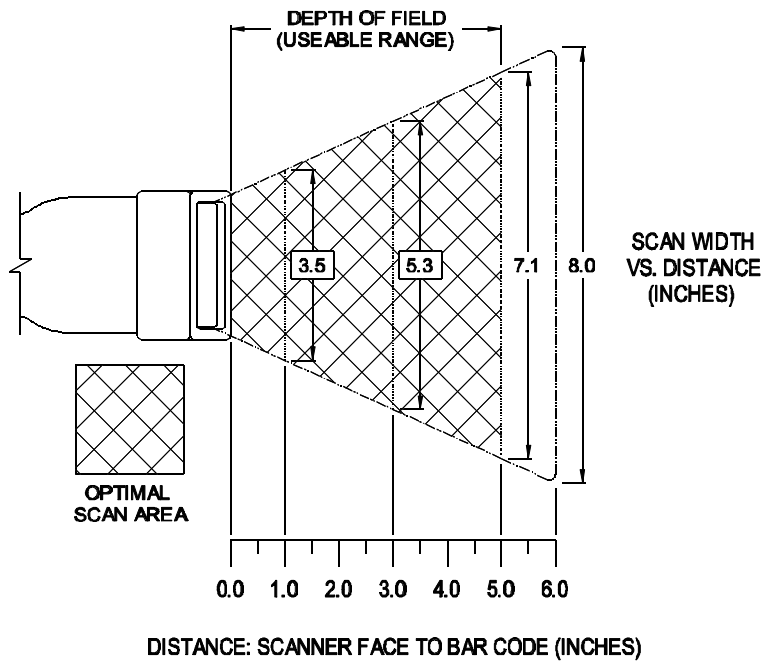

Figure 4
The depth of field for the scanner is from the face of the output window to five (5) inches (*Refer to Figure 4*). If the scanner is in the stand, a bar code must be presented to the scanner. When holding the scanner, position the output window within five inches of the bar code.